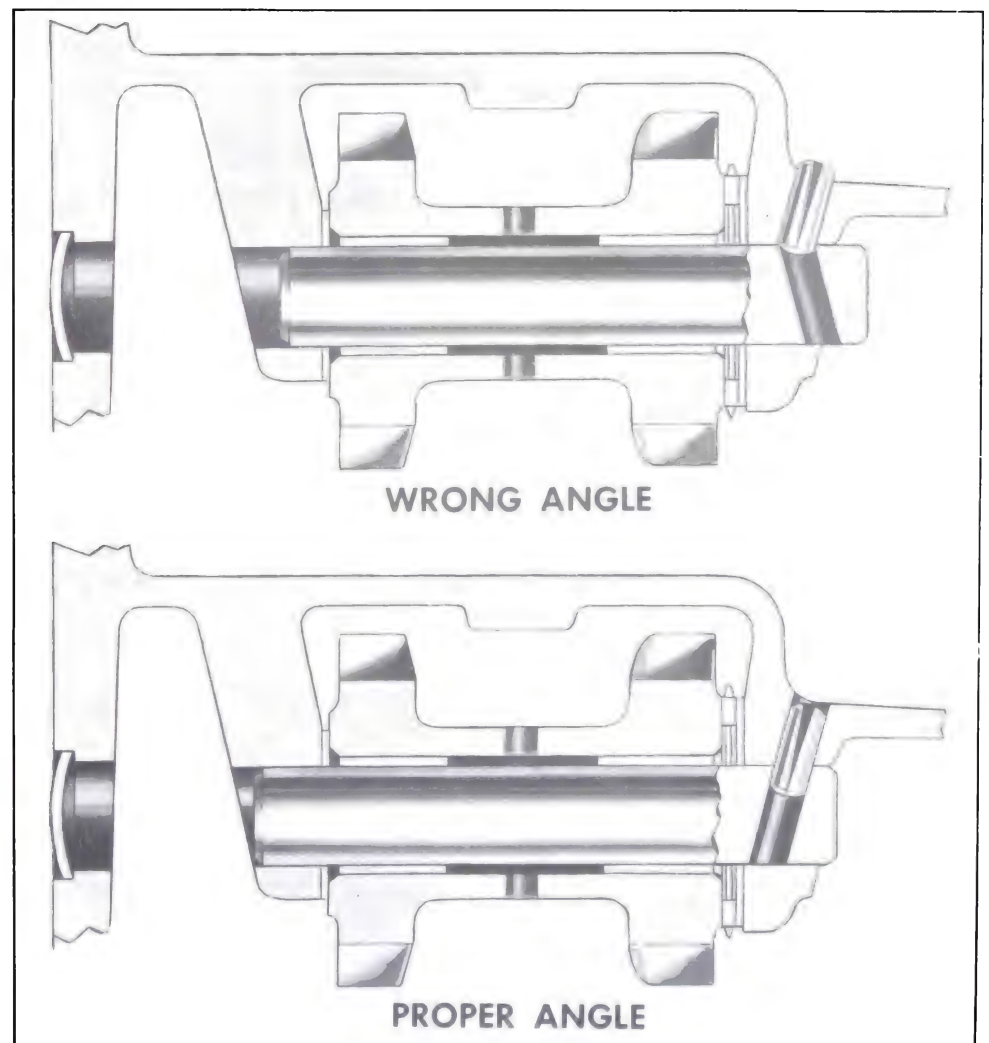

Figure 4-33—Reverse Idler Gear
1. Coat reverse idler thrust-washers and the thrust bearing with grease and install as shown in Figure 4-33. Coat bushings with transmission lubricant.